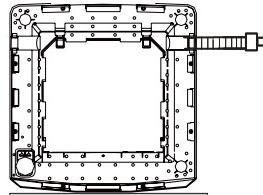

Figure 2
2. Dismantle the bottom plate.(as indicated in Figure 2)